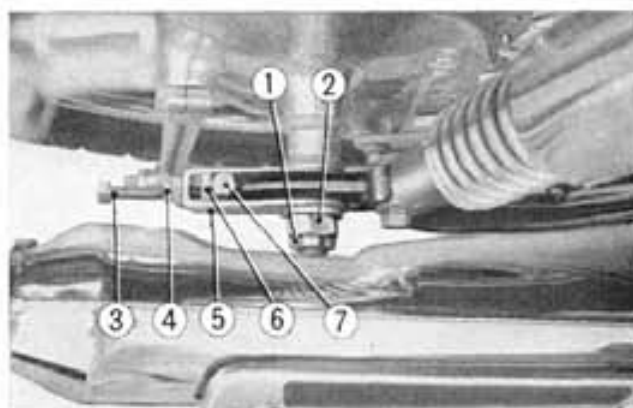

Fig. 13-17 ① Cotter pin ⑤ Chain adjuster
4. Remove the cotter pin from the right side of the rear axle and loosen the axle nut. (Fig. 13-17)
5. Loosen the drive chain adjusting bolt lock nuts, back out the abjuster bolts and turn the chain adjusters downward. Remove the rear fork cap fixing bolts and fork caps. (Fig. 13-17)